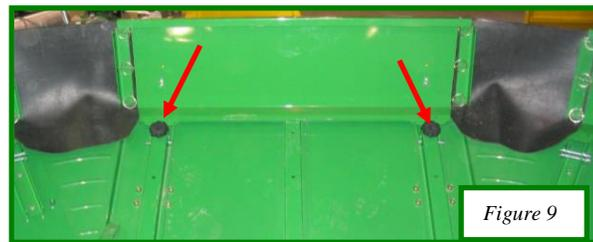

Figure 9
Drill through the front factory extension through the existing top holes in the two outside support braces on the extension with a 13/32" bit. (See Figure 9) Place the front rolltube bracket on top of the cab. Using (2) 3/8" x 3" carriage head bolts and (2) plastic knobs secure the bracket to the factory extension by sliding the carriage bolts through the bottom slots and securing it on the inside of the hopper with the plastic knobs. Position the rolltube bracket so the bolts go through roughly the center of the slots. Using a 13/32" bit drill through the middle of the top (2) slots and the Big Top extension. Secure with (2) 3/8" x 2-1/4" carriage head bolts and (2) plastic knobs.